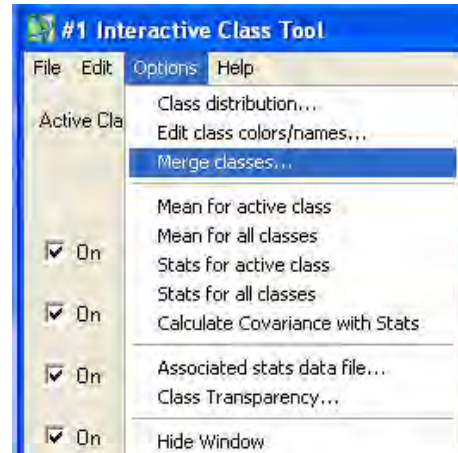

Figure 31. Options drop-down menu
- c. Select Merge classes (see Figure 31)